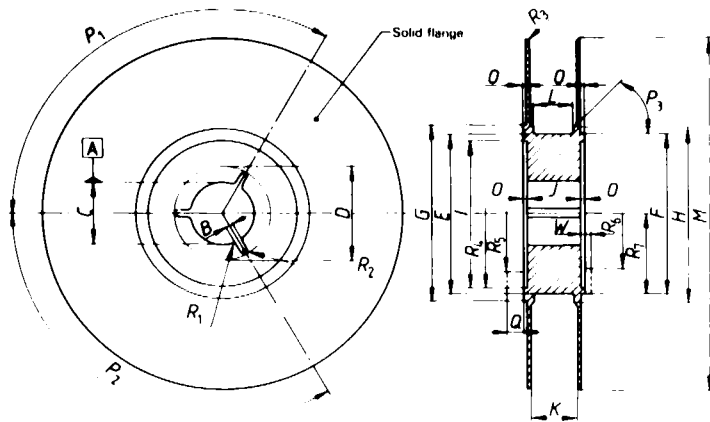

Figure 1 — Reel dimensions
3.1 The dimensions shall be as shown in figure 1 and given in table 1.
3.6 The reel shall be designed with at least one solid flange (see figure 1), with the exception of the hub area. The solid flange side of the reel shall be opposite to the opening in the hub area for access to film attachment. By definition, the solid flange should not contain openings such as thread-up slots.